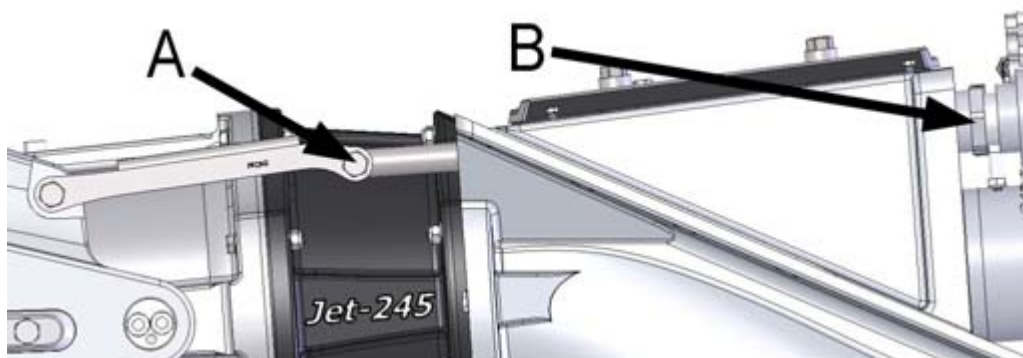

Figure 55. Removing the cylinder
3. Open the knee bolt of the connecting rod between the hydraulic cylinder and the reversing deflector (figure 55, point A).
4. Open the fastening nut of the hydraulic cylinder (figure 55, point B).